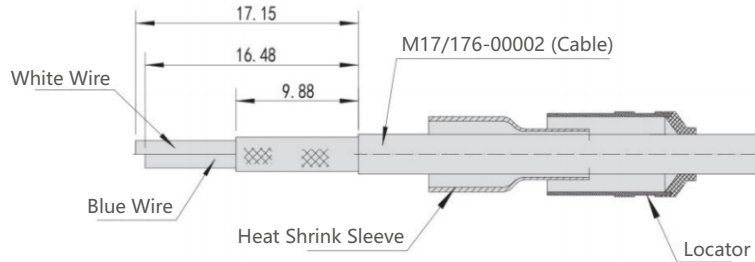

Figure 3.1
①As shown in Figure 3.1, proceed as follows: